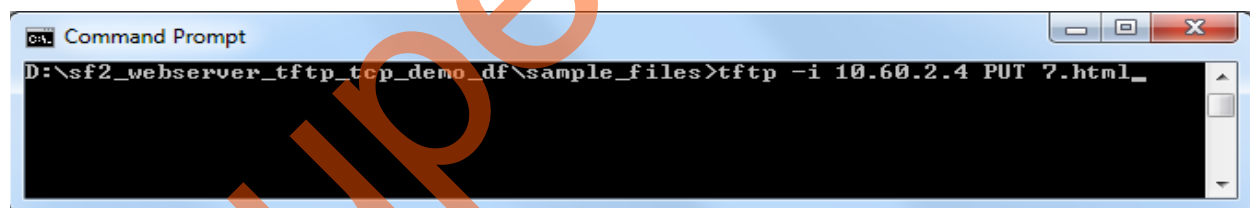

Figure 26 • Command Prompt
8. Type the following tftp command to transfer the file to the tftp server (SmartFusion2 Device) as shown in Figure 26.